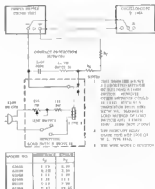

Figure 5-7. Transient Response, Test Setup
- General test setup shown in Figure 5-7.